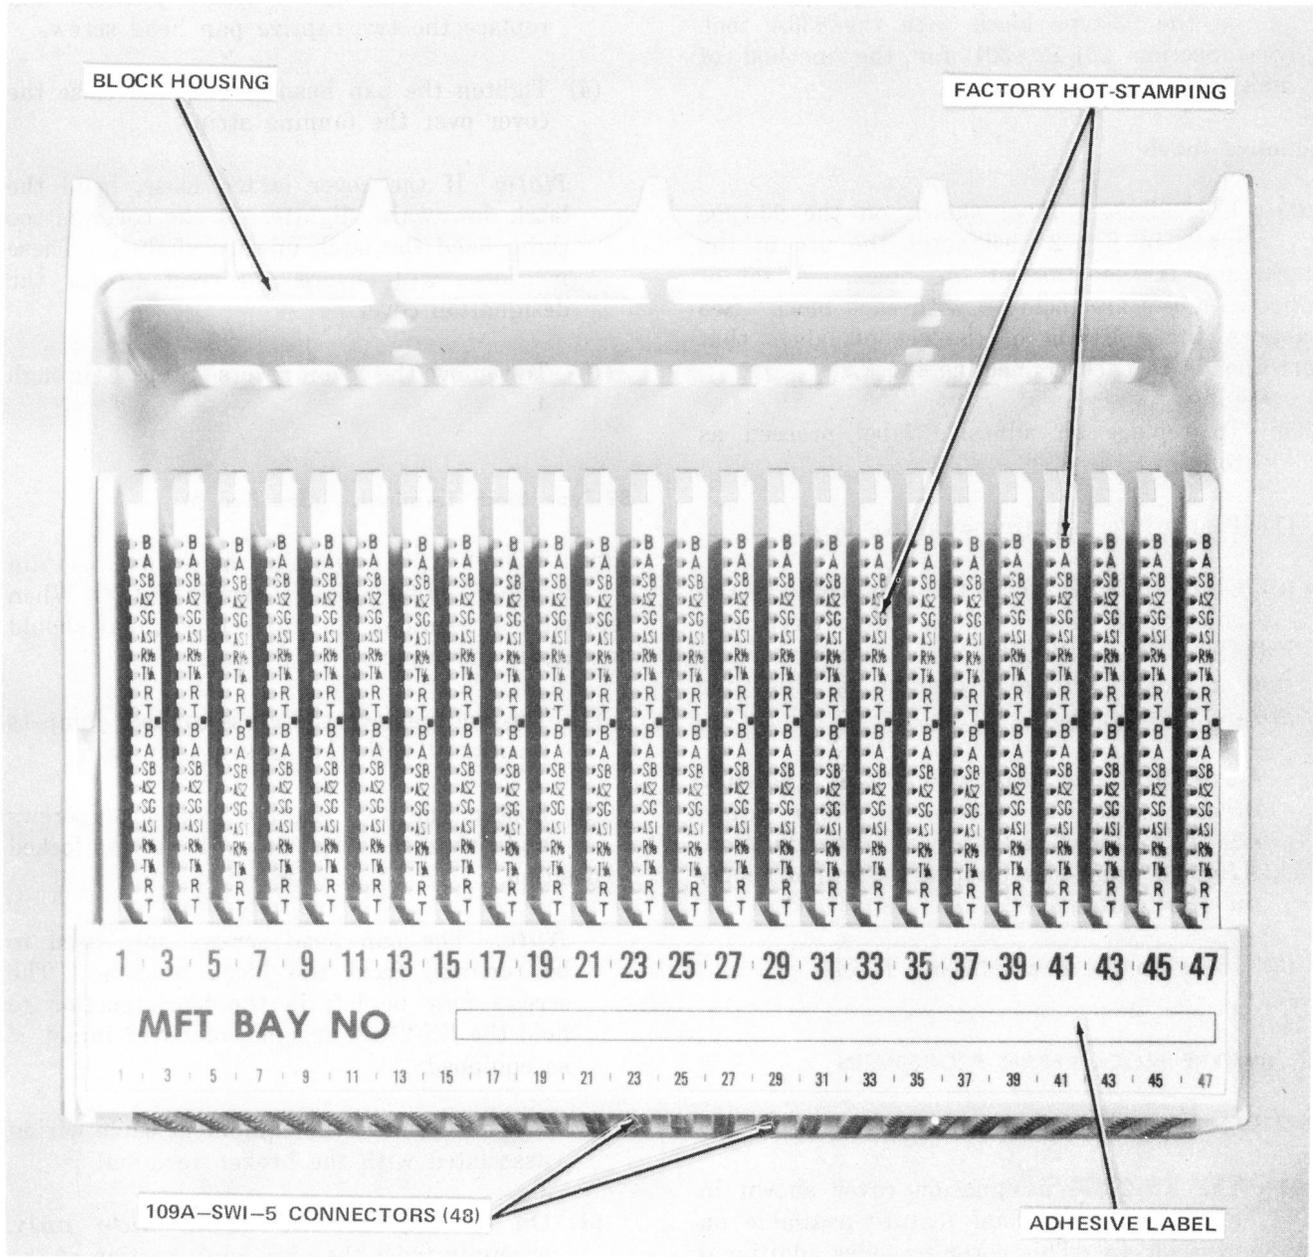

Fig. 2—Adhesive Label on 93-Type Block
4.03 The adhesive label shown on the 93-type block in Fig. 2 designates the use of the block, and the location of the block. A set of adhesive labels are included with each block. See Table A for a listing of the set of labels that corresponds to each connecting block.